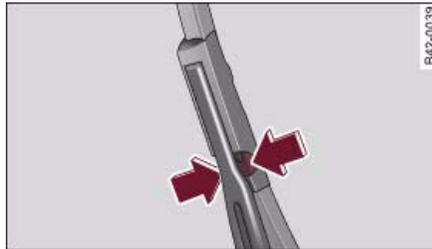

Fig. 56 Releasing the wiper blades
- Press both sides of the plastic retainer at the top end of the wiper arm together in the direction of the arrows ⇒ fig. 56.